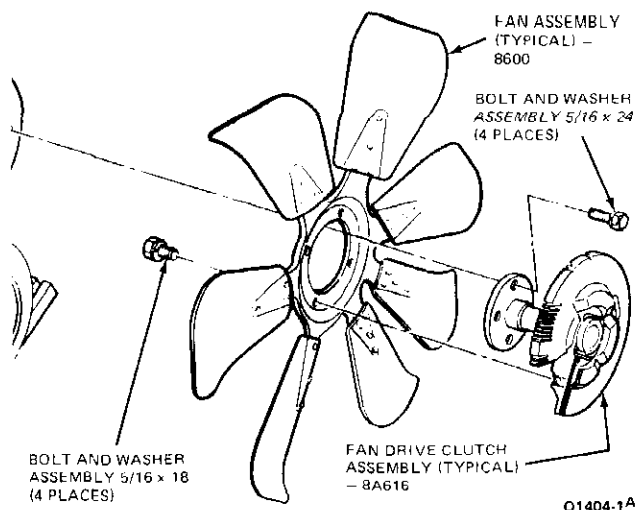

FIG. 4 Fan Drive Clutch and Fan
2. Position the fan drive clutch and fan assembly and belt to the water pump hub (Fig. 4). Install and torque the attaching bolt and washer assemblies evenly and alternately to specifications. Then, check the fan drive clutch flange-to-water pump hub for proper mating. Adjust the fan belt tension to specifications.